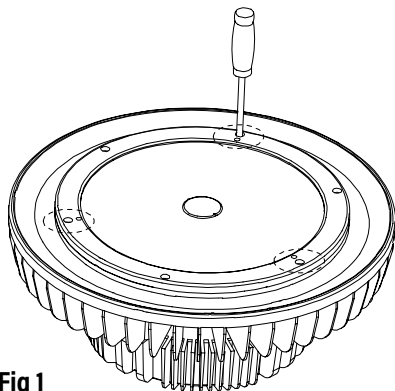

Fig 1
1. Insert screw (x3) into each threaded hole and slightly tighten them. (Fig. 1)